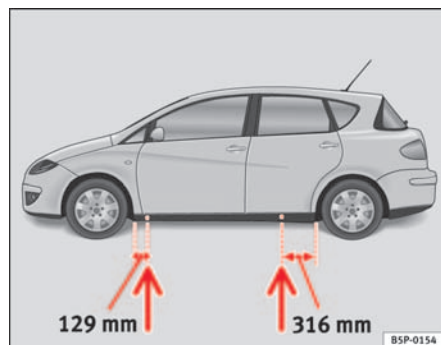

Fig. 174 The jacking points
- Locate the jacking point under the door sill closest to the wheel being changed ⇒ fig. 174.
Recesses at the front and rear of the door sills mark the jacking points ⇒ fig. 174. A position has been made for each wheel. Do not fit the jack anywhere else.